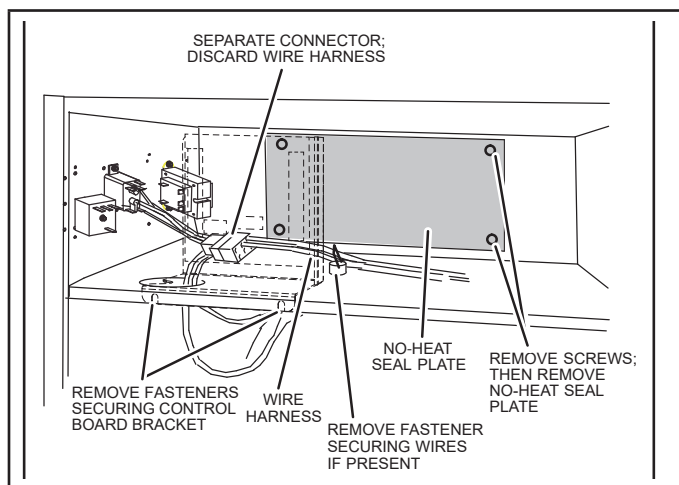

FIGURE 5. Prepare to Install Heat Element
- 3 - Disconnect any existing field supply wires and pull them out of the air handler. Disconnect and remove wiring harness, fastener and control board (see figure 5). If not removed, these items will prevent the heat section's base from resting properly in the compartment.
- 4 - Remove the no-heat seal plate in the air handler frame (see figure 5).